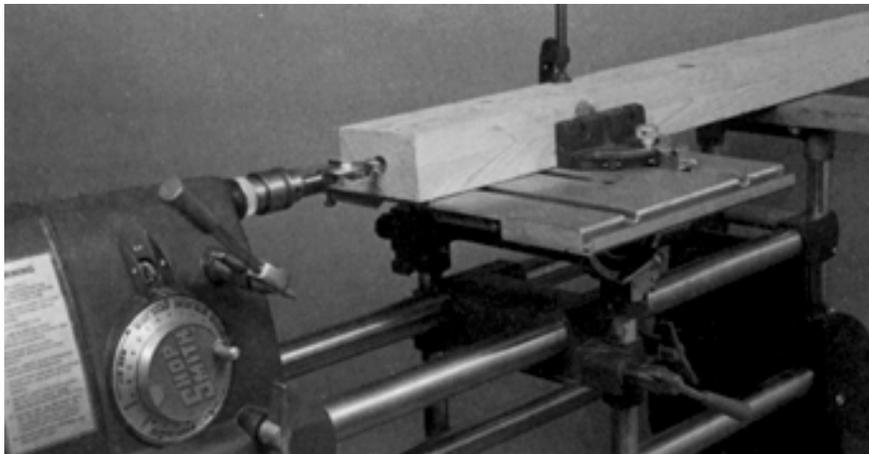

Figure 11-2. Without the rip fence you can bore as large or wide a workpiece as you can safely and easily handle.
- With a 5-1/2" long bit mounted in the chuck and using the rip fence as a backstop, you can bore workpieces up to 30" long or wide (Model 500) or 55" (Model 510 with the extension table system). Without the rip fence, you can bore as large or wide a workpiece as you can safely and easily control (Figure 11-2).